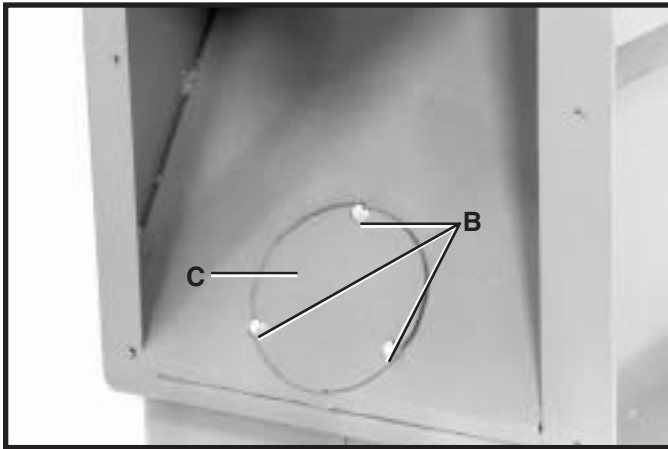

Fig. 6
2. Remove three screws (B) Fig. 6, and remove cover (C) from dust chute located under outfeed table. Remove mounting hardware located inside cover (C) that fastens outfeed end of machine to skid and replace cover (C).